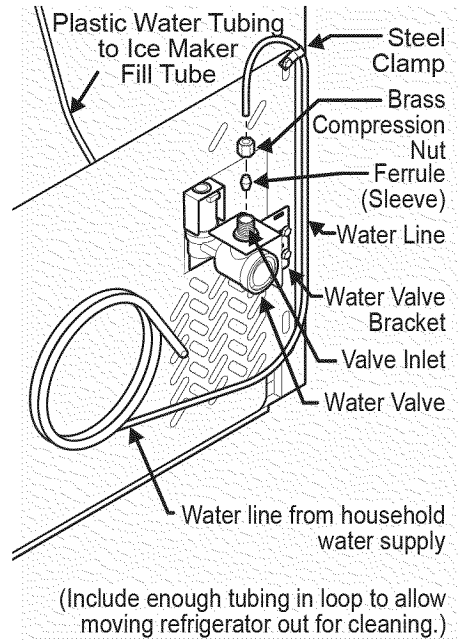

Figure 1
- 4 If you use copper tubing - Slide brass compression nut, then ferrule (sleeve) onto water supply line. Push water supply line into water valve inlet as far as it will go ($\frac{1}{4}$ inch/6.4 mm). Slide ferrule (sleeve) into valve inlet and finger tighten compression nut onto valve. Tighten another half turn with a wrench; DO NOT over tighten. See Figure 1.
If you use stainless steel tubing - The nut and ferrule are already assembled on the tubing. Slide compression nut onto valve inlet and finger tighten compression nut onto valve. Tighten another half turn with a wrench; DO NOT over tighten. See Figure 1.